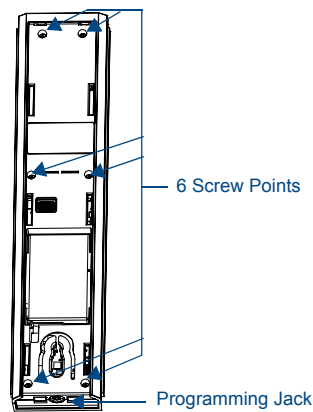

FIG. 2 Internal Mio R-3 Components
- Unscrew the 6 screw points indicated in FIG. 2.
The programming jack (see FIG. 2) is used for communication between the device and KeypadBuilder. The programming jack uses a three-wire, 2.5mm stereo jack, and you can order the programming cable (**FG10-817**) from AMX if you do not currently possess one.